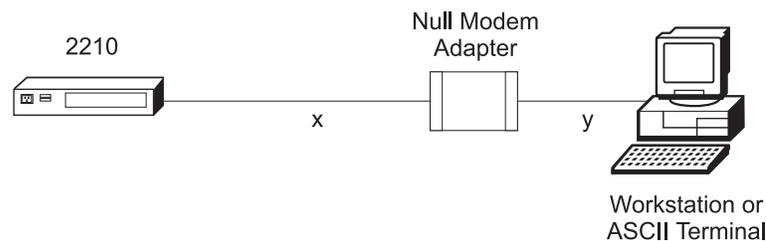

Figure 3-1. Local Terminal Connection to the EIA-232 Service Port
- Locally through a null-modem adapter and serial cables supplied with this product that are attached to the EIA-232 service port using an ASCII connection. See Figure 3-1.